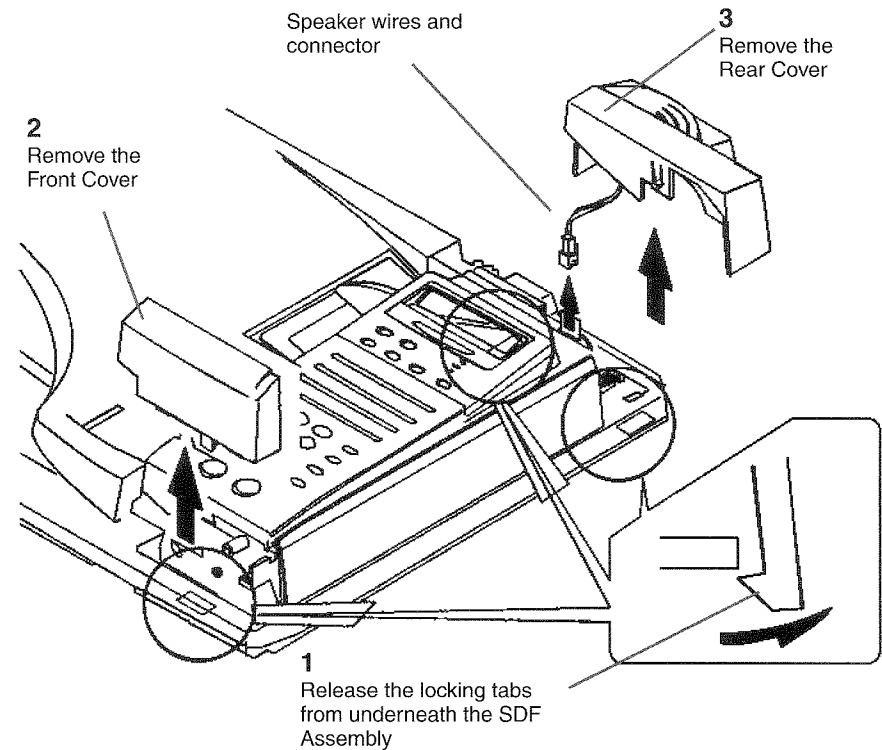

Figure 1 Removing the Front Cover and the Rear Cover
1. ( Figure 1 ): Remove the Front Cover and the Rear Cover.